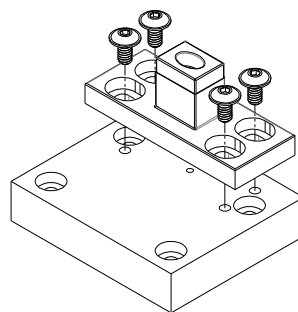

Figure 16:
3. Assemble the top section of the Archetype Floor Pivot using a $5/32$ " hex key (Figure 16). Verify and adjust the position of the Archetype Floor Pivot as necessary (Figure 17), retighten.